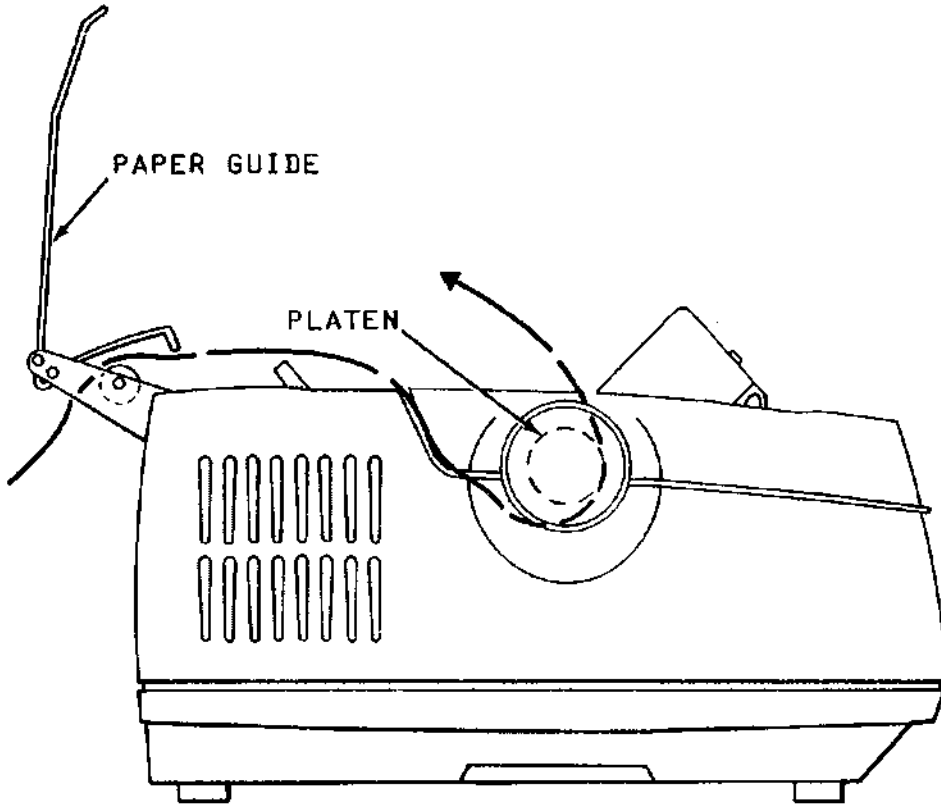
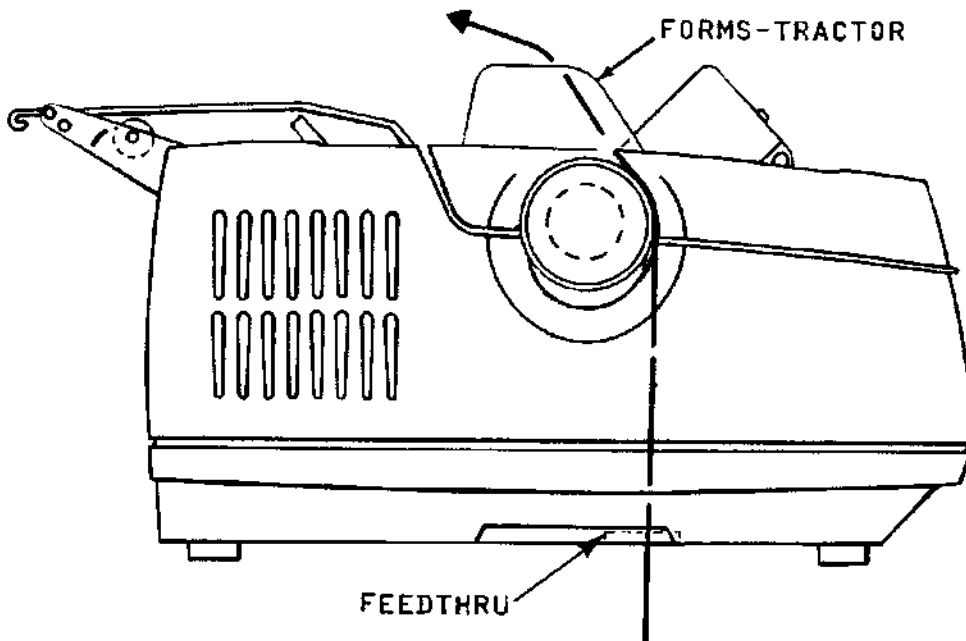

Figure 2-5 Rear Paper-Feed Path
Figure 2-6 Bottom Paper-Feed Path - (Optional Feature)
The SPINWRITER has three different types of paper feed: friction feed, pin-feed, and forms-tractor paper feed. When loading paper, refer to the procedure below that applies to the particular type of paper feed for your machine. Figure 2-5 shows rear paper-feed path. Rear feed is similar to paper placement in a typewriter. Figure 2-6 shows you how to load the paper through the bottom of the SPINWRITER. Bottom feed is an optimal feature.
- d. Insert paper with printing surface down as shown in Figure 2-5.
- e. Insert paper as shown in Figure 2-5 or 2-6 with printing surface down (for rear feed).
- e. Insert paper as shown in Figure 2-5 or 2-6 with printing side down (for rear feed).